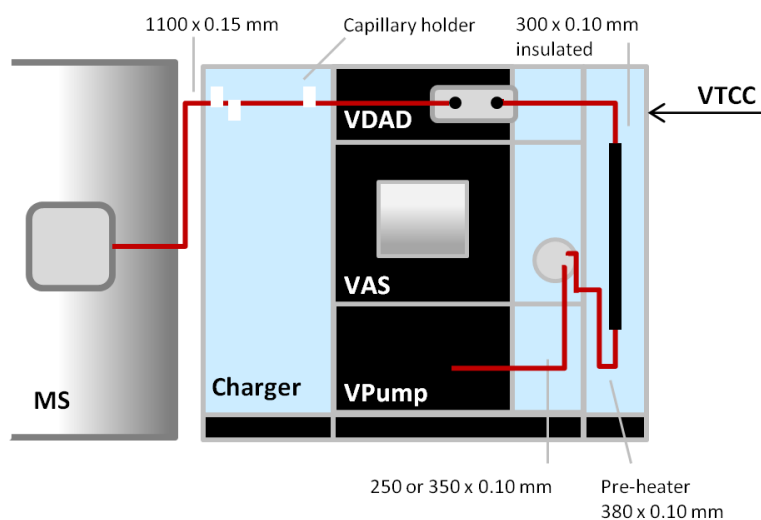

Figure 5. Setup for a Vanquish system with optical detector and Charger as front-end for Exactive mass spectrometers.
- 2) Stack the modules as shown below and make all fluidic connections using Viper capillaries, according to Figure 5. Use the capillary holders where needed. The picture illustrates the course of the flexible Viper capillaries in general. Thermo Fisher Scientific recommends installing all capillaries inside the modules as needed.